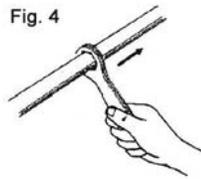

Fig. 4
- After fastening the bracket, detach the wrenches from the outer shells as shown in Fig. 4.